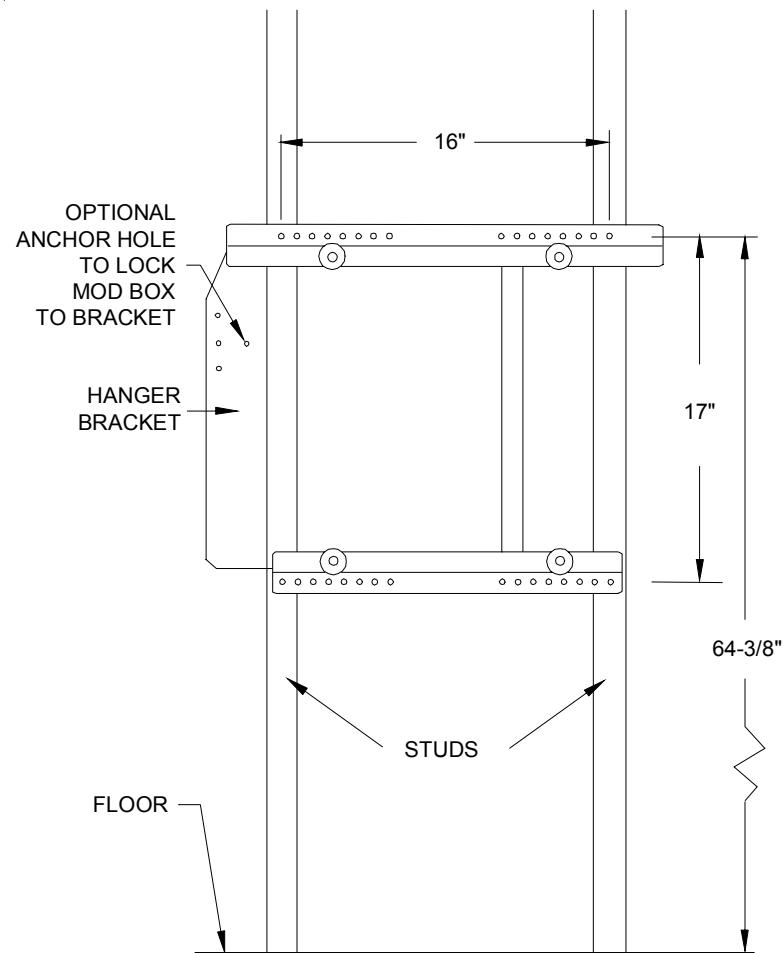

FIGURE 1-1 - INSTALLING THE HANGER BRACKET
1. PREFERRED METHOD\*: At the installation location, use a level to mark a horizontal line that is exactly 64-3/8" (163.5 CM) off the floor. This will place the bottom of the MoD BoX at the recommended 38" (965 cm) above the floor. Refer to Figure 1-1.
3. Locate the wall stud locations on the horizontal lines. Drill 5/32" holes at the marks. Place the hanger against the wall and secure using the (4) 1/4" x 1-1/2" lag screws supplied.